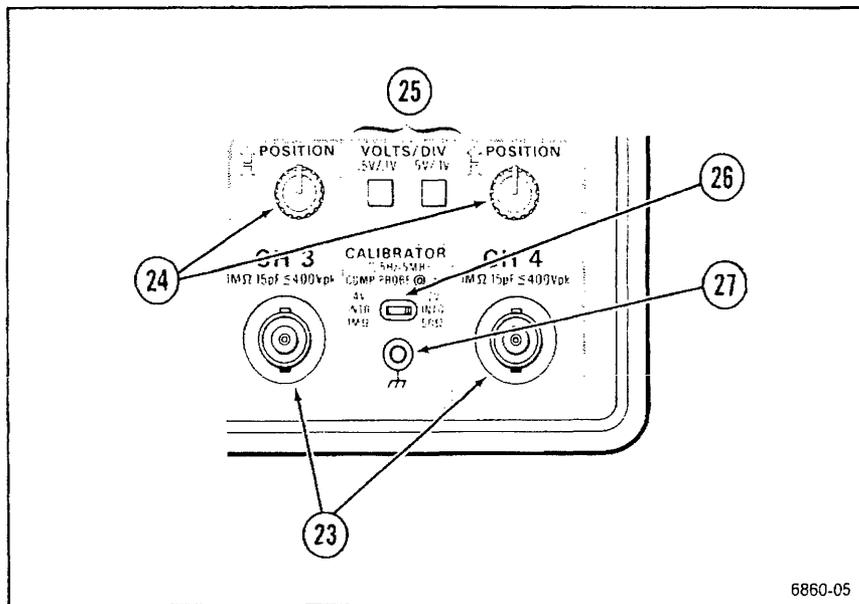

Figure 5-4. CH 3 and CH 4 controls and connectors and CALIBRATOR output.
- Only with the available Television/Video (TV) enhancement, the CH 2 input has a back porch clamp for composite video signals. When the input coupling is AC, pressing the upper button activates the clamp and displays "TVC" in the readout. The clamp locks the back porch feature of the video signal to a constant level and eliminates drift, hum, and tilt, despite changes in signal amplitude and average luminance levels. Pressing the lower button restores AC coupling and turns off the clamp.
- ②② **CH 1 OR X and CH 2** Conduct external signals to the Channel 1 and Channel 2 vertical inputs. A signal applied to the CH 1 OR X connector provides the horizontal deflection for an X-Y display. Each connector includes a coding-ring contact for Tektronix-coded probes.
Refer to Figure 5-4 for the location of items 23 through 27.
- ②③ **CH 3 and CH 4 Input Connectors** Conduct external signals to the Channel 3 and Channel 4 vertical inputs. Each connector includes a coding-ring contact for Tektronix-coded probes. Input coupling from these connectors is DC only. Channel 3 and Channel 4 are most useful as digital-signal and trigger-signal input channels, given their limited choice of deflection factors.
- ②④ **POSITION Controls** Set vertical position of the Channel 3 and Channel 4 signal displays. The controls operate identically to the Channel 2 POSITION control, but with less range on their associated traces.
- ②⑤ **VOLTS/DIV Switches** Toggle between 0.1 V and 0.5 V per division deflection factors for Channel 3 and Channel 4.
- ②⑥ **CALIBRATOR Connector** Provides a 0.4-V p-p square-wave into a 1 M $\Omega$  load, 0.2-V p-p into a 50  $\Omega$  dc-coupled load, or 8-mA p-p into a short circuit. The signal is useful for checking sweeps, delay-times, and vertical deflection accuracies, as well as compensating voltage probes and checking the accuracy of current probes. The repetition rate of the square wave changes with A-Sweep SEC/DIV changes. From 100 ms per division to 100 ns per division, the A Sweep of the instrument supplying the CALIBRATOR signal displays five cycles per 10 divisions. At 100 ms per division and slower, the CALIBRATOR frequency is 5 Hz; at 100 ns per division and faster, the frequency is 5 MHz. The signal amplitude at 5 MHz is at least 50% of the signal amplitude obtained when the sweep speed is set to 1 ms per division.